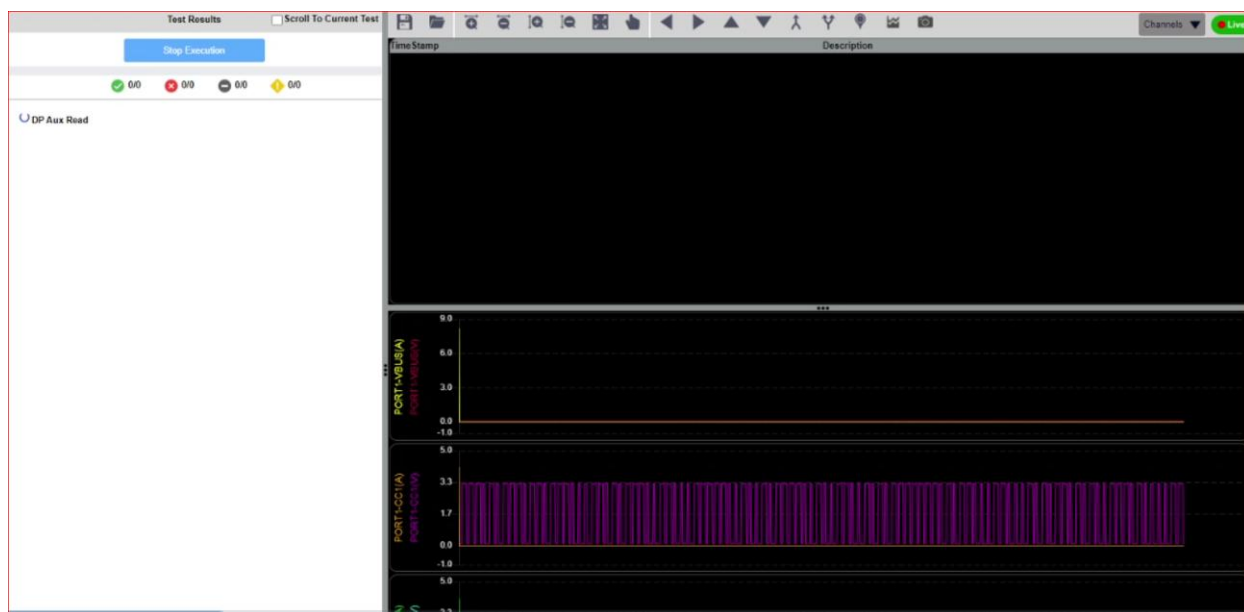

FIGURE 3.4: START SIGNAL CAPTURE IN RESULTS SCREEN EXAMPLE
4. At the “Signal Capture” field, click on the **Start** button to start running signal acquisition in the *Results* screen as shown in Figure 3.4 example.